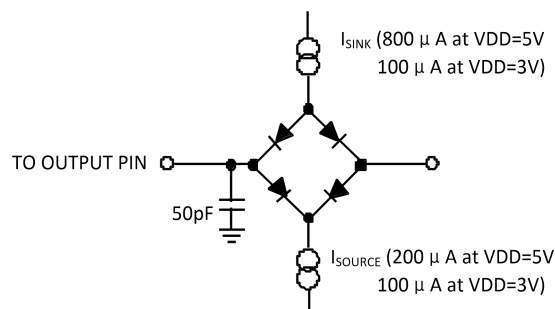

Figure 1. Load Circuit (excess time and bus release time)
5. These values are measured in load shown in Figure 1. It is defined that the time required for output crossing  $V_{\text{OL}}$  or  $V_{\text{OH}}$ .
6. These values are measured when data output is 0.5V (load situation is shown in Figure 1). Then backstep by measured data to remove the effect of charging and discharging 50pF capacitor. It indicates all time values in parameter table are real bus release time and are independent of external load capacitors.